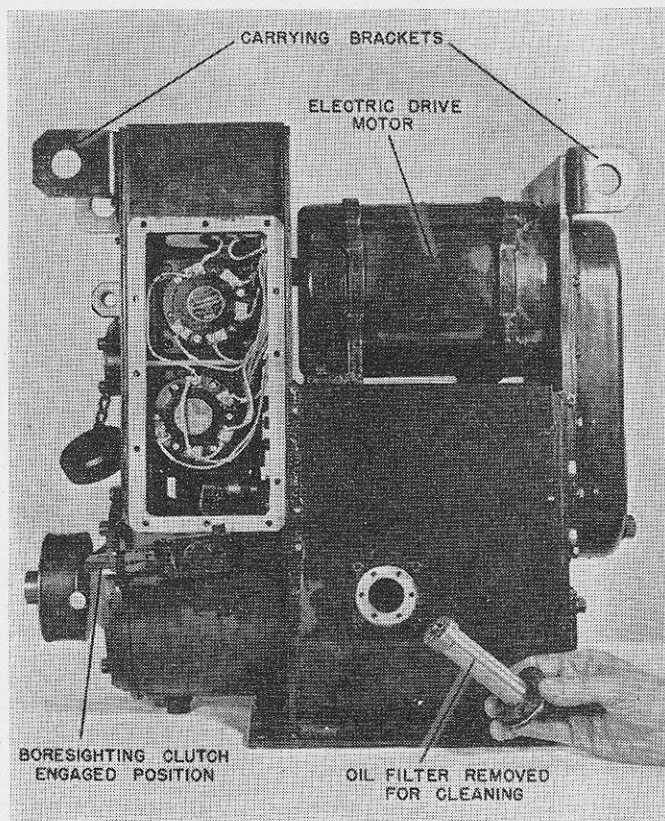

FIGURE 35.—Oil gear unit M3B1—right side view.
(2) *Gear train and clutches* (see fig. 35).—Remove side plate covers and grease the gear train and clutch mechanism in the synchro and output gear housing with a Norma Hoffman #51 or #66 grease, or equivalent every month. Any oil leakage from the hydraulic portion of the control into the selsyn housing should be drained monthly by removing the drain plug (fig. 35).
(4) *Input gearing*.—Lubricate the gear train between the electric motor and the hydraulic pump by keeping the electric motor gear case full to the drain plug level with SAE 50 motor oil (fig. 35).